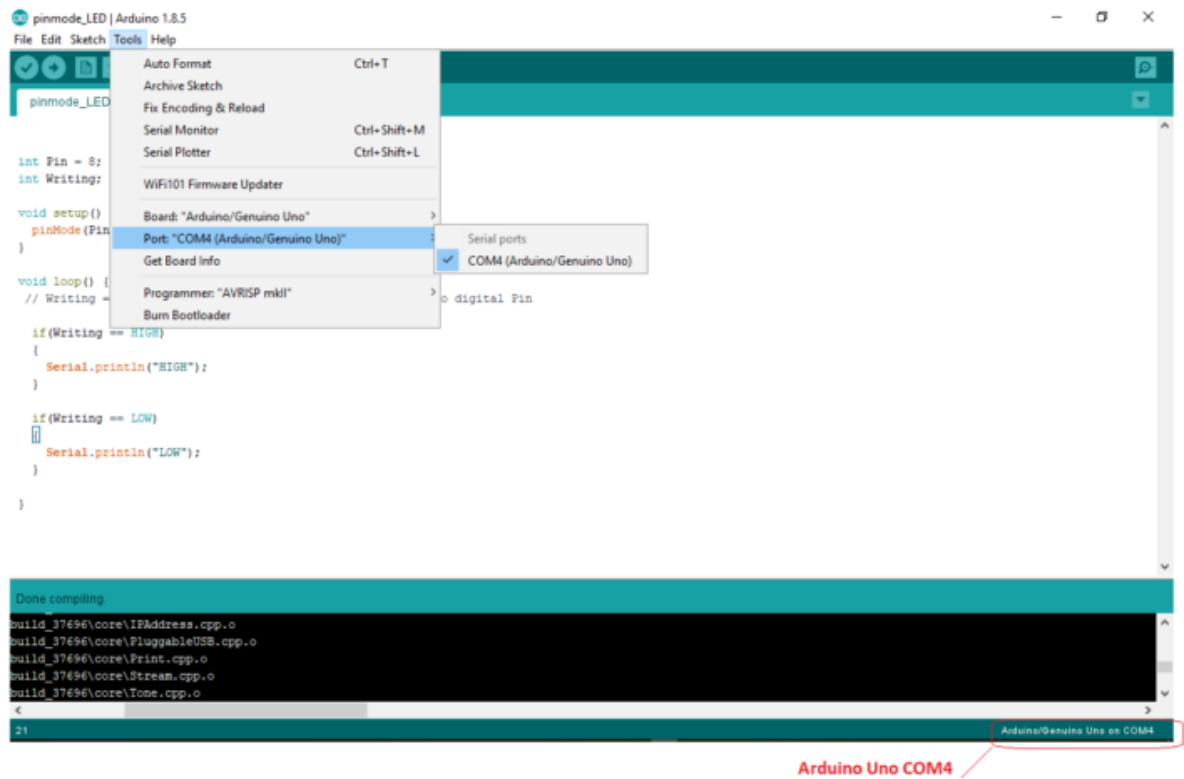

Figure 4.4 Port selection in Arduino IDE
- The Figure 4.4 below shows the COM4 that I have utilized for my project, specifying the Arduino Nano with COM4 port at the bottom right corner of the screen which is highlighted in the red coloured box.